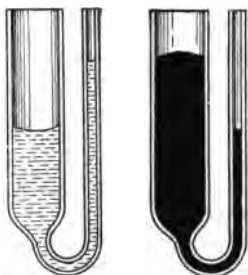

FIG. 76. — Capillarity in small tubes.
**81. Capillarity.** Suppose we have two U-tubes (Fig. 76) with their side tubes 30 mm. and 1 mm. in diameter. If we pour water colored with ink into the first tube, and mercury into the second tube. we observe